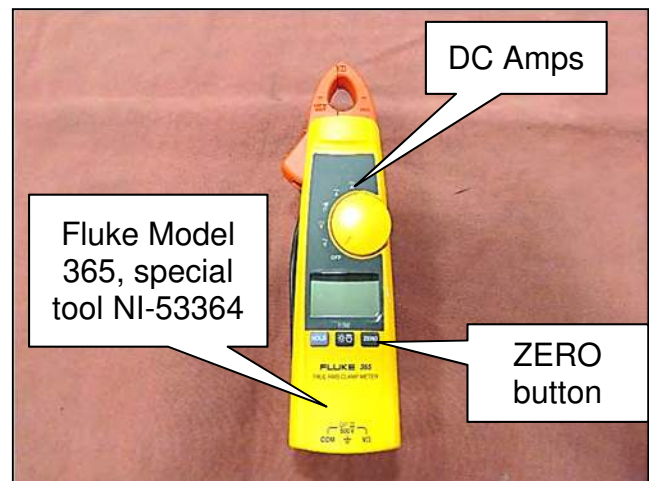

Figure 35
- Set the ammeter to DC Amps (Figure 35).
- Zero out the ammeter by pressing the **ZERO** button under the display (Figure 35).